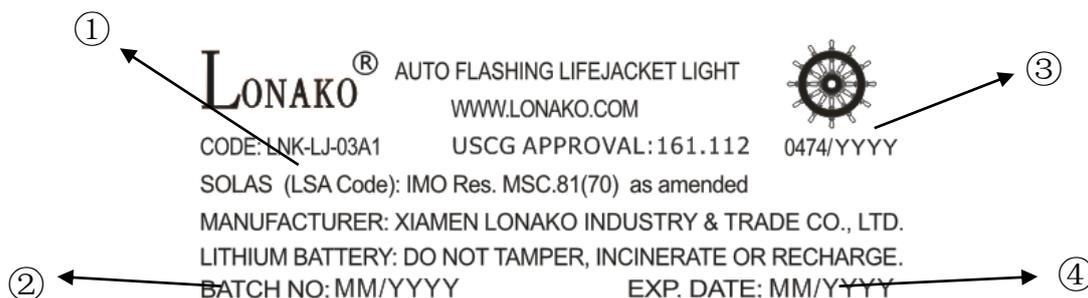

Figure 2-3
2.2.1 The difference between LNK-LJ-03A1 and LNK-LJ-03A1W lifejacket lights can be identified by the manual switch label as Figure 2-2 ,and code number on the label Figure 2-3.
2.4.1 Standard product marking of LNK-LJ-03A1 & LNK-LJ-03A1W lifejacket lights are shown as below pictures. Figure2-3: